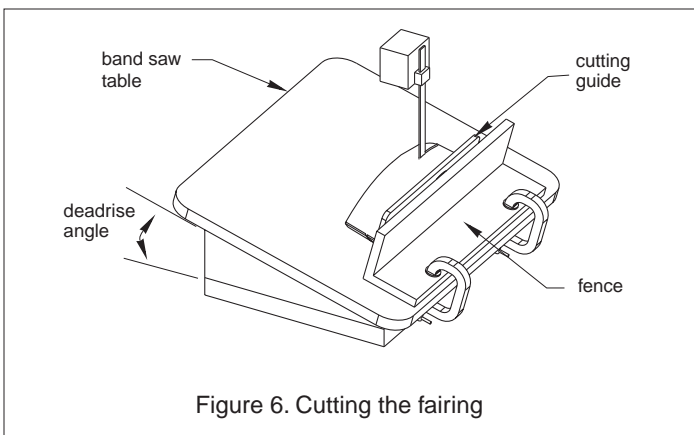

Figure 6. Cutting the fairing
3. Tilt the band saw table to the measured angle and secure the cutting fence (see Figure 6).